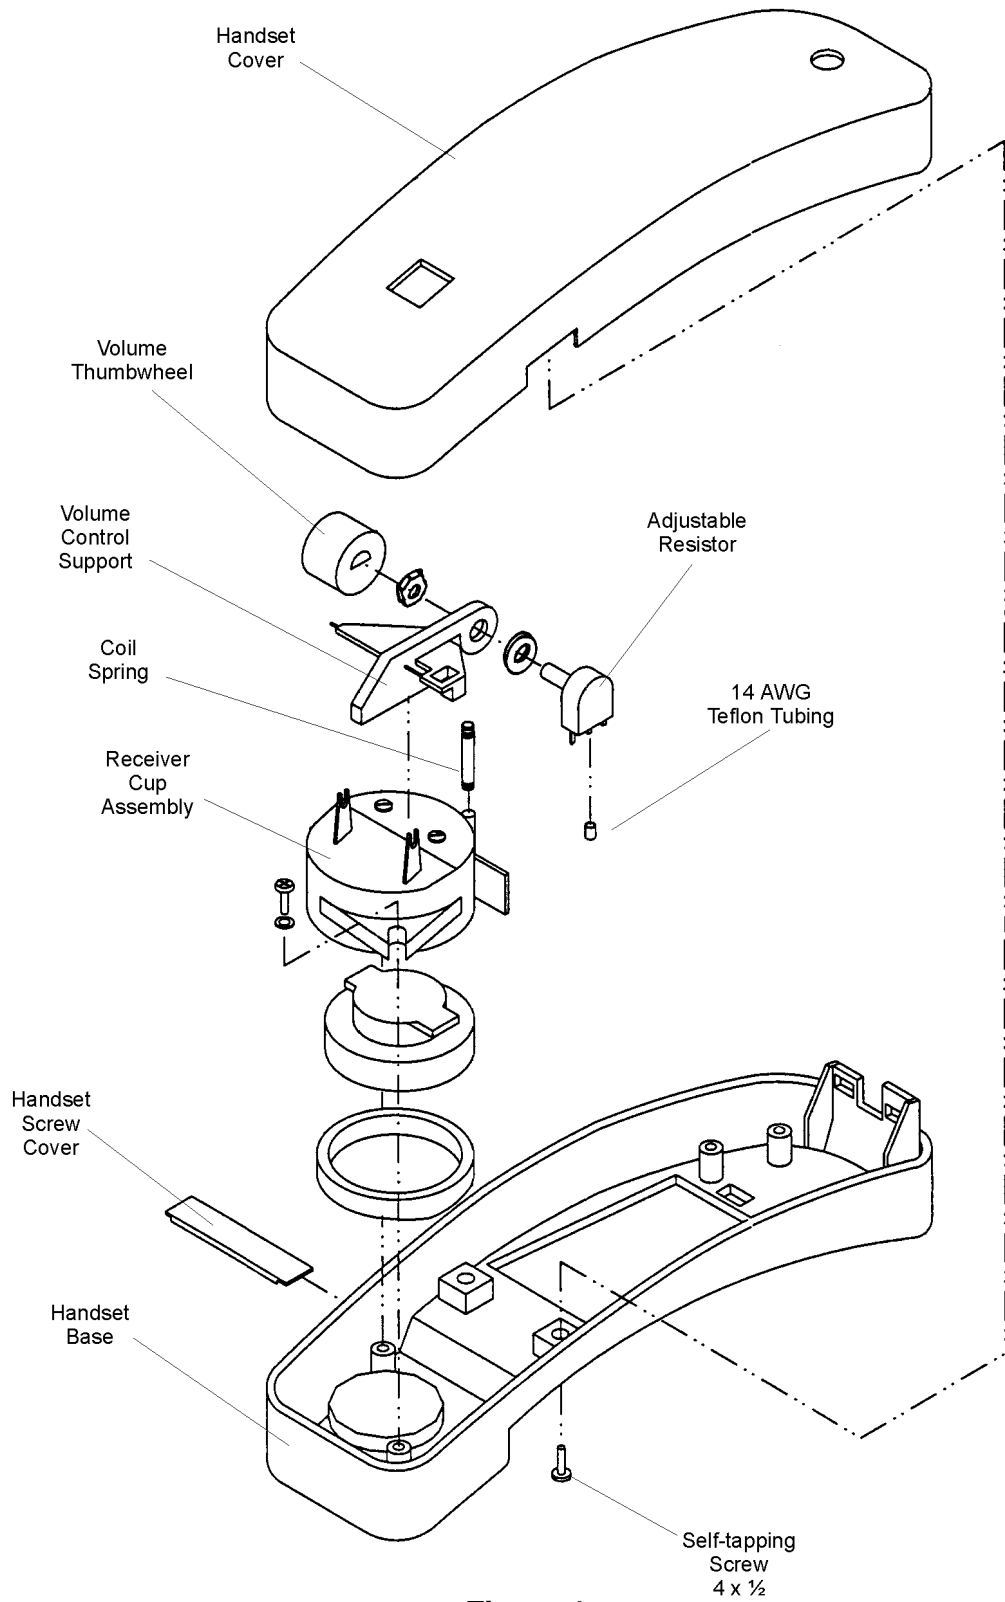

Figure 1
A. Disassembly (refer to Figure 1)
Reassembly (refer to Figure 1)
3. Mount the Modified Adjustable Resistor on the Modified Volume Control Support P/N 246-0045-001 as shown in Figure 1. Use the nut and washer supplied with the resistor. Apply purple Loctite to the threads before installing the nut.